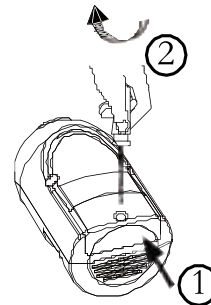

FIGURE 6
(3) Refit the cover, and fasten the screw clockwise (FIGURE 6).